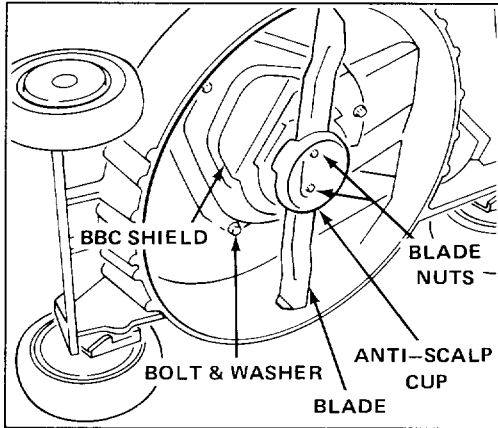

Figure 28
4. Remove (2) blade nuts, anti-scalp cup, blade, blade spacer, and (3) bolts and washers securing BBC shield to mower deck (Fig. 28).